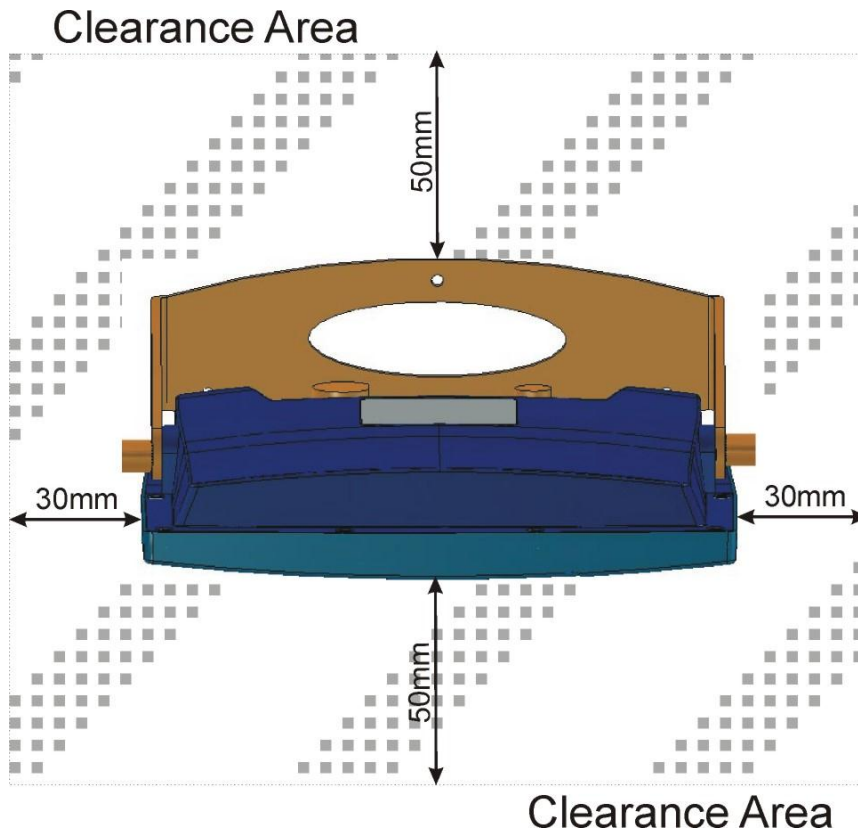

Figure 4-2: Gimbal mount clearance area
1. Determine where to install the R4 Display. The R4 Display can be mounted horizontally or vertically. Make sure there is enough space around the R4 Display, see Figure 4-2 below.